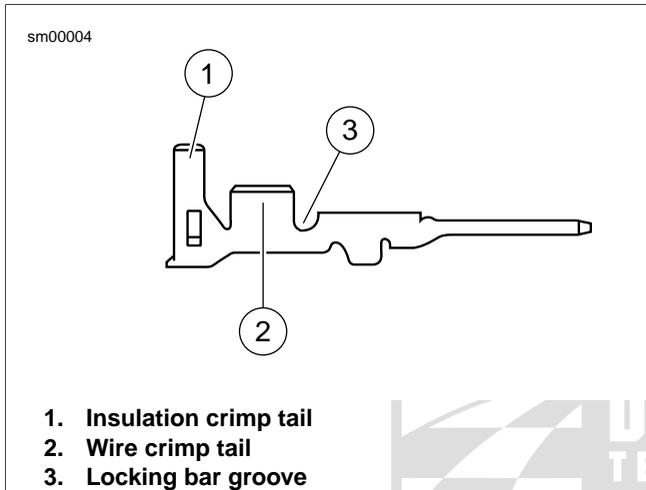

Figure A-6. AMP Multilock Connector: Pin Terminal
- See Figure A-6 and Figure A-7. Select the pin/socket terminals from the parts catalog and identify the insulation crimp tails (1) and the wire crimp tails (2) and the groove for the crimp tool locking bar (3).
See Figure A-6 and Figure A-7. Hold the terminal with the insulation crimp tail (1) facing up. The tool will hold the terminal by the locking bar groove (3) and crimp the wire crimp tail (2) around the bare wire of the stripped lead and the insulation crimp tail around the insulation.